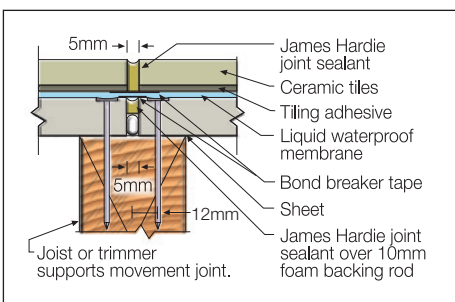

FIGURE 13 DIRECT TILE - TILE MOVEMENT JOINT OVER SHEET MOVEMENT JOINT
When tiling direct to sheets with no mortar bed, the 5mm butt joints between all adjacent sheets act as control joints. These control joints must be carried up through the tiled finish, see Figure 13.
- All sheet control joints must carry up through the tiles, see Figure 13.
- If additional tile control joints are required, these should coincide with sheet edges. See Figures 13 and 14. Refer to relevant tile codes for recommended tile control joint spacing.